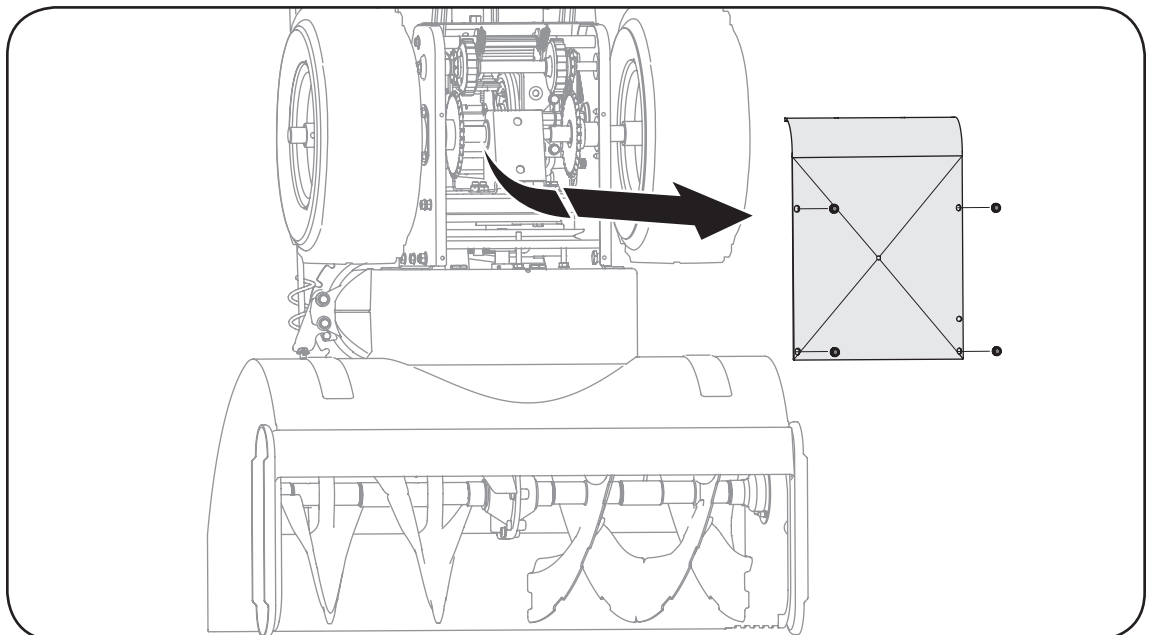

Figure 5-2
1. With the snow thrower tipped forward (be certain to drain gasoline or place plastic film under the gas cap if the snow thrower has already been operated), remove the frame cover underneath the snow thrower by removing the self-tapping screws. See Figure 5-2.